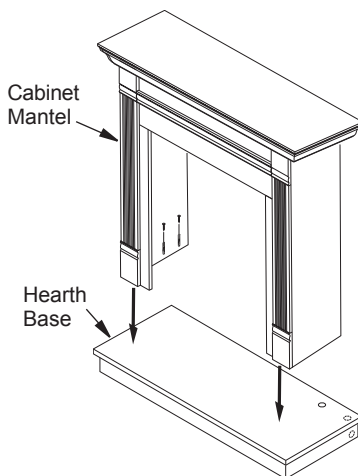

Figure 11 - Installing Cabinet Mantel onto Hearth Base
4. Center cabinet mantel on hearth base (see Figure 11). Make sure mantel is flush against wall and centered left to right on base.